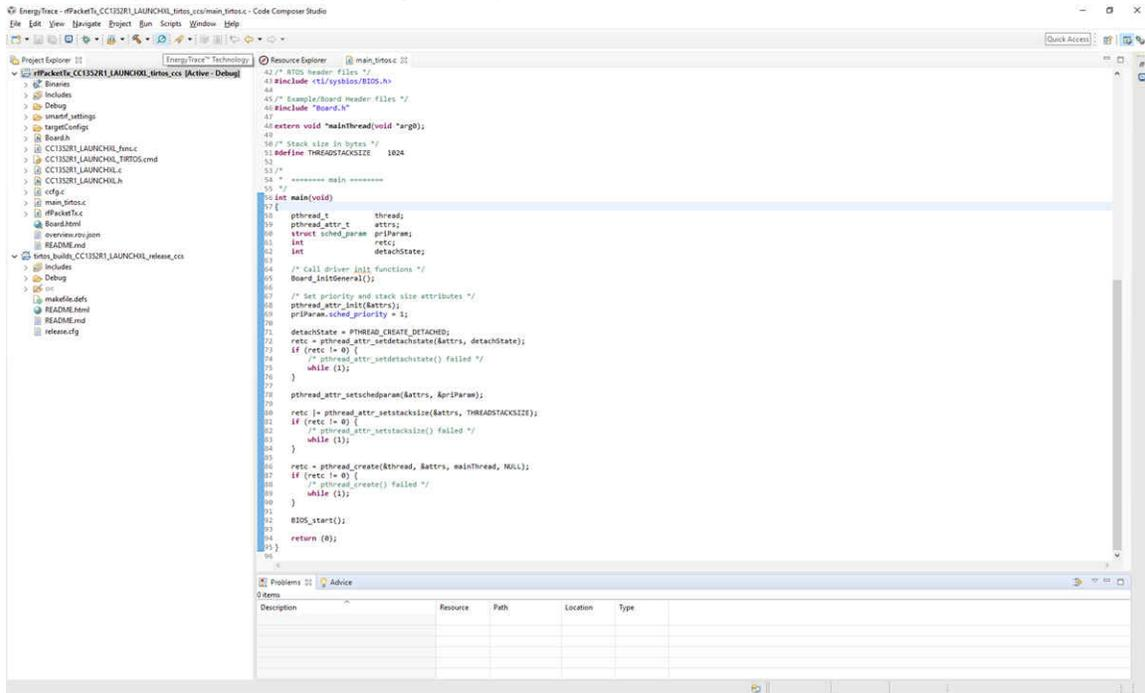

Figure 7-5. EnergyTrace Button
- Click the EnergyTrace Button (see Figure 7-5).